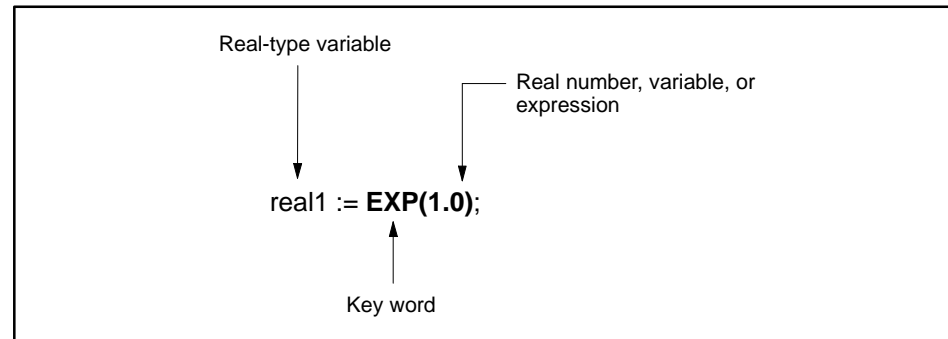

Figure 11-18 EXP Function
- The returned value is also a real number. For example, in Figure 11-18, the value of the variable, **real1**, is 2.7.